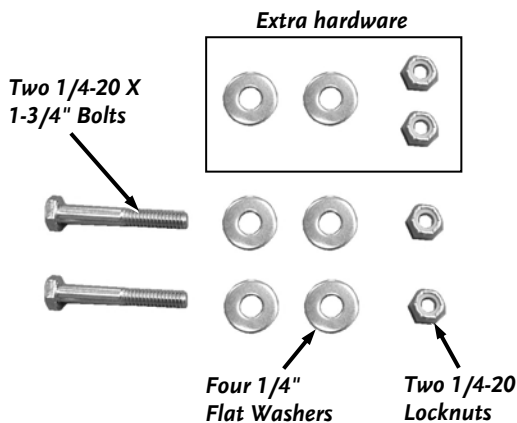

Figure 4
8. Remove two Bolts, four Flat Washers and two Locknuts from the Product Package (**Figure 4**). The remaining Washers and Locknuts are spares.